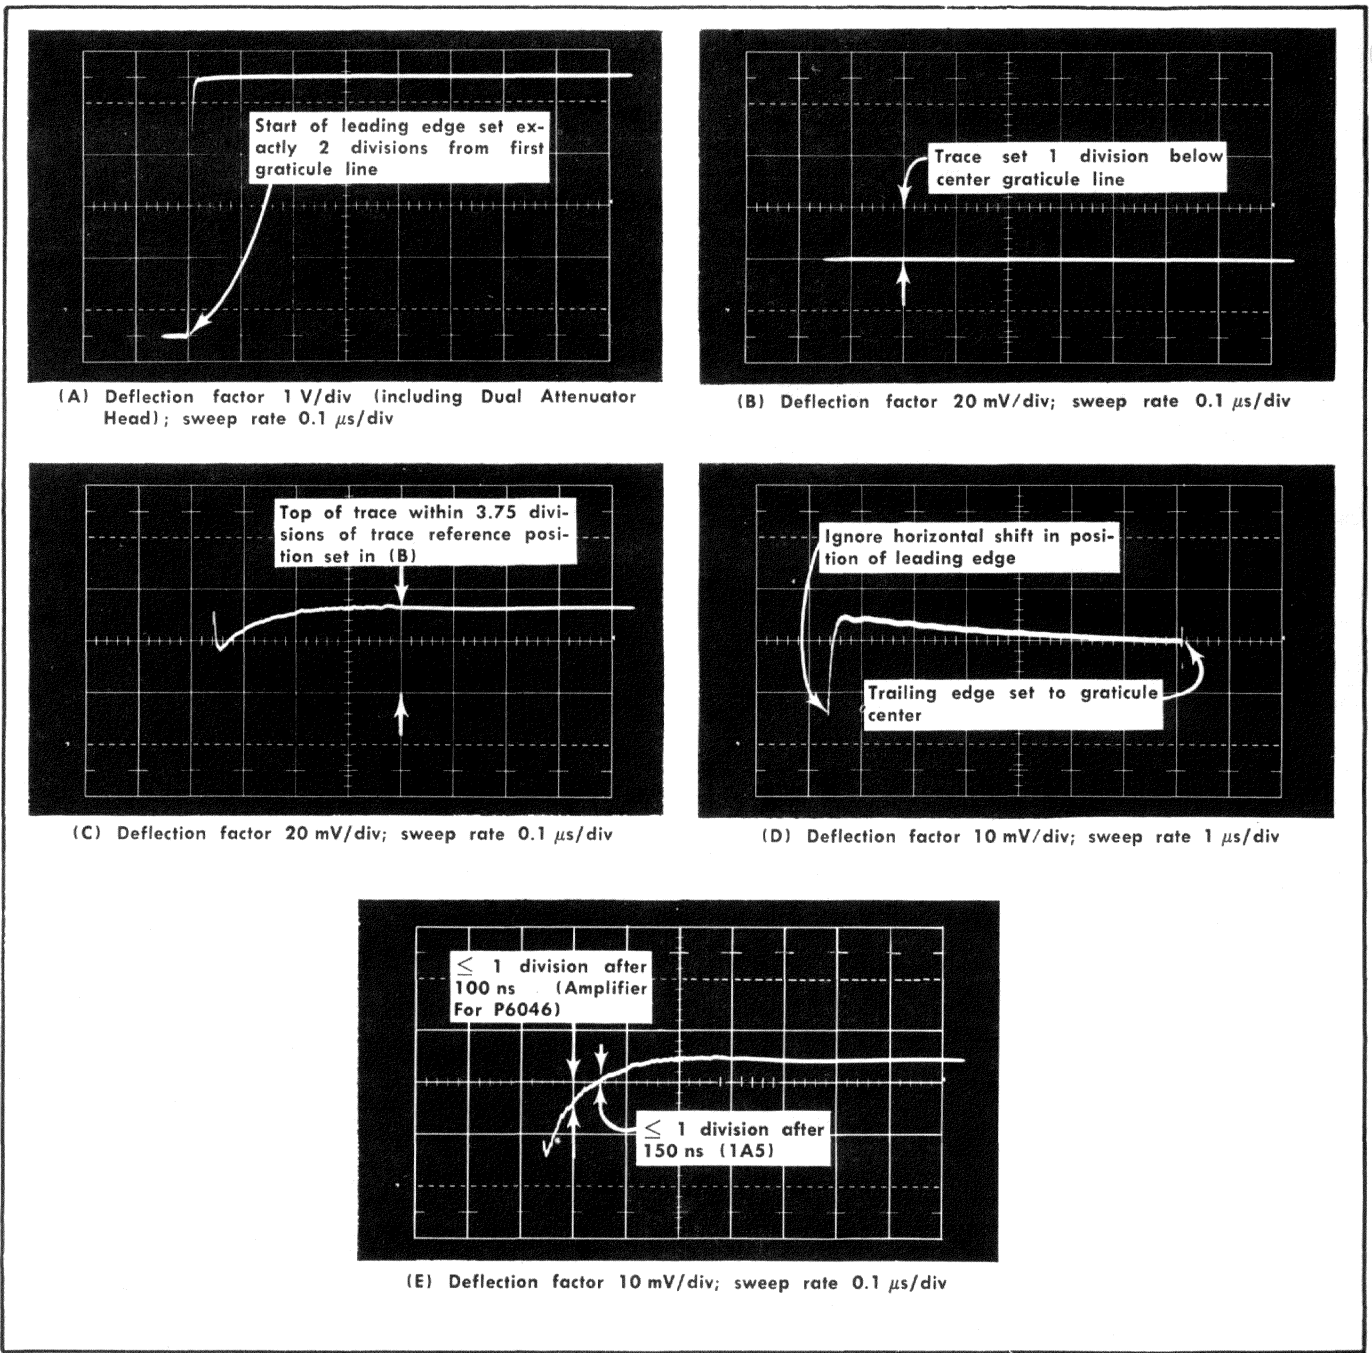

Fig. 6-15. DC shift and overdrive recovery waveforms, step 8.
h. Adjust the Square-Wave Generator AMPLITUDE control to provide a 5 div square wave. Adjust the Oscilloscope TRIGGERING LEVEL as necessary to obtain a stable display. Using the horizontal position controls, set the leading edge of the positive square wave to start exactly 2 div from the first vertical graticule line as shown in Fig. 6-15 (A). Do not move the horizontal position or triggering controls for the remainder of this step.
l. CHECK—DC shift due to overdrive. Connect a special ground tip to the Probe — Input tip, then connect the + Input tip to the Probe tip-to-GR adapter and associated equipment. Check the position of the top of the square wave 1 second after making the connection. 3.75 div or less trace shift should occur, for a trace shift of 1.5% or less of input signal. See Fig. 6-15 (B) and (C).
m. Set the vertical deflection factor control to 10 mV and the oscilloscope Time/Div to  $1 \mu\text{s}$ . Using the vertical POSITION control, set the trailing edge of the top of the square wave to the vertical center of the graticule as in Fig. 6-15 (D).
n. (P6046 Probe — Type 1A5 only) Check—Overdrive recovery time. Switch the Time/Div control back to  $.1 \mu\text{s}$  and check the vertical separation between the trace and the graticule vertical center 3.5 div from the first vertical graticule line (150 ns after start of step function as shown in Fig. 6-15 E). At that point the trace should be within 1 div of graticule vertical center, and stay within 1 div for the remainder of the positive excursion of the square wave.
o. (P6046 Probe — Amplifier For P6046 only) CHECK—Overdrive recovery time. Switch the oscilloscope Time/CM to  $.1 \mu\text{s}$  and check the vertical separation between the trace and the graticule vertical center 3 divisions from the first vertical graticule line (100 ns after start of step function, as shown in Fig. 6-15 E). At that point the trace should be within 1 div of graticule vertical center, and stay within 1 div for the remainder of the positive excursion of the square wave.